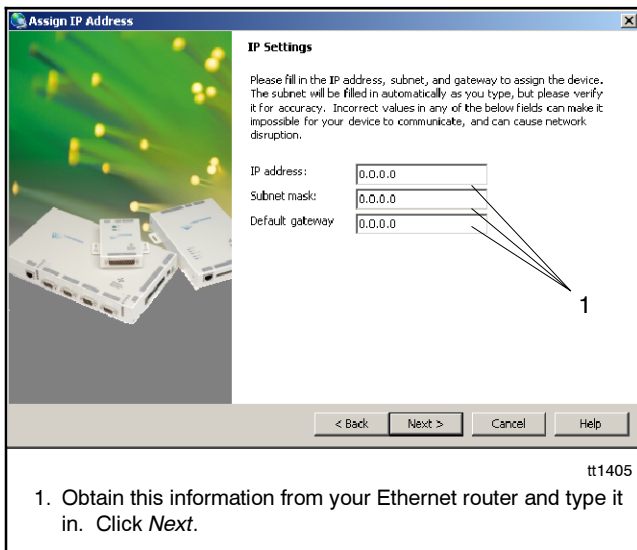

Figure 31 IP Settings
9. See Figure 31. Use an available IP address that you identified in Section 9.4. Refer to the instructions provided with your router to find the subnet mask and gateway. Type in the bridge IP address, subnet mask, and default gateway in dotted decimal notation. Click Next.